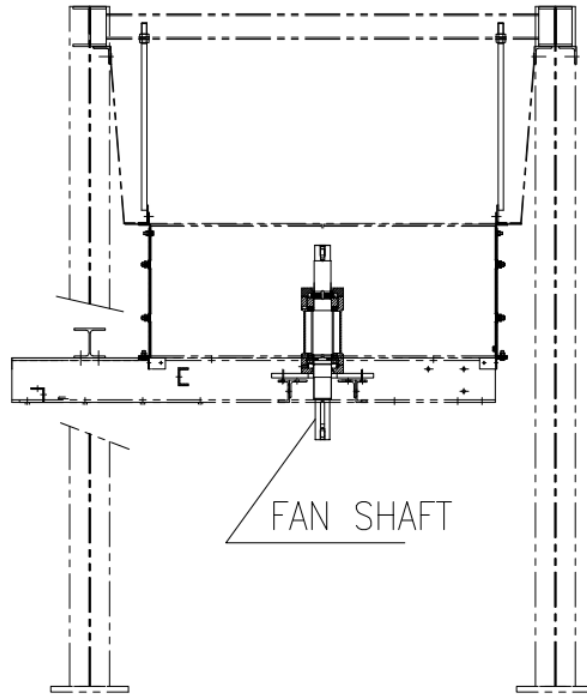

Figure 3-14 Installation of Fan Shaft on Mechanism Support
- D. Install complete fan shaft assembly (Shaft+Bearing Blocks) on the mechanism support, but don't tighten the bolts. (See Figure 3-14)